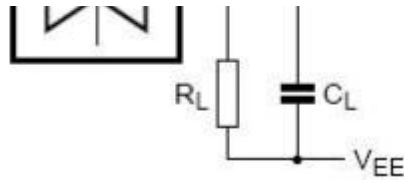

图7、方波失真度、关断频率和导通频率测试图
- 2、 $R_L = 1\text{ k}\Omega$; $C_L = 5\text{pF}$, 通道关断, $20\log V_{os}/V_{is} = -50\text{dB}$, 见图7
- 3、 $R_L = 1\text{ k}\Omega$; $C_L = 5\text{pF}$, 通道开, $20\log V_{os}/V_{is} = -3\text{dB}$, 见图7